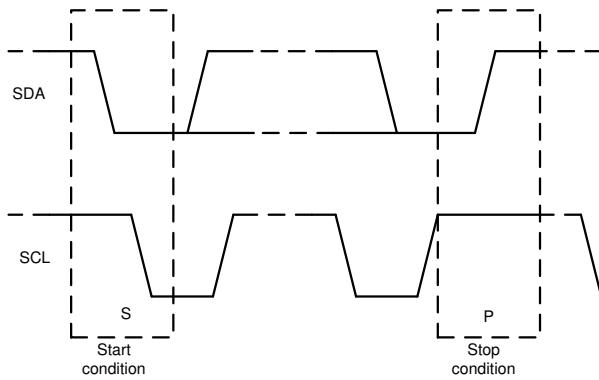

図 7-12. Start and Stop Conditions
1. The controller initiates data transfer by generating a start condition. 図 7-12 shows that the start condition is when a high-to-low transition occurs on the SDA line while SCL is high. All I²C-compatible devices recognize a start condition.
4. 図 7-12 shows that to signal the end of the data transfer, the controller generates a stop condition by pulling the SDA line from low-to-high while the SCL line is high. This action releases the bus and stops the communication link with the addressed target. All I²C-compatible devices recognize the stop condition. Upon receipt of a stop condition, the bus is released, and all target devices then wait for a start condition followed by a matching address.